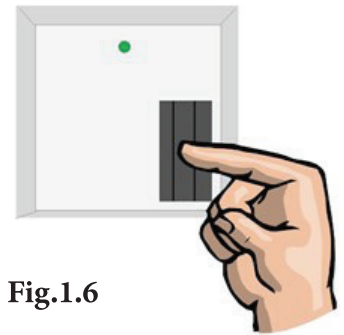

Fig.1.6
- Use the magnet to reset the sensor in the pool by holding the magnet on the face of the sensor for five (5) seconds as shown in Fig1.6.
- When the magnet is removed after five (5) seconds, ensure three (3) green flashes are seen from the LED in the top center position.